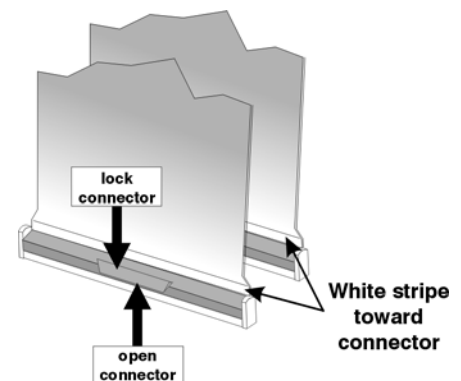

Figure 30. Releasing Cables
3. Flip the tab on the connector UP to unlock and disconnect cable. (Figure 30.)
When replacing a Flex style cables, insert it into the connector with the white stripe facing the tabbed side of the connector that opens (see Figure 30.) Make sure to re-route the blue DMD cables through the bracket on the TCPD and the red and green cables along the lens mount to the light engine. Allow the cables to loosely loop around components avoiding sharp changes in direction, which could cause the cables to kink.